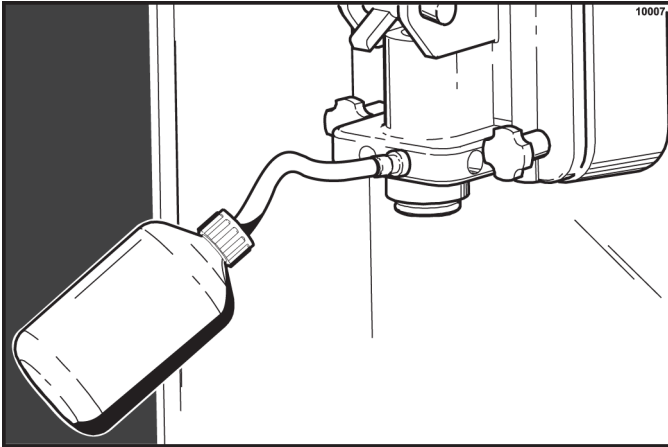

Figure 6-52
6. Fill the squeeze bottle with sanitizing solution. With a pail beneath the door, insert the tube end of the squeeze bottle into the syrup port, and squeeze the bottle firmly. This action will force solution out of the adjacent port and down around the spinner. This procedure should be performed for at least 10 seconds per port. (See Figure 6-52.)